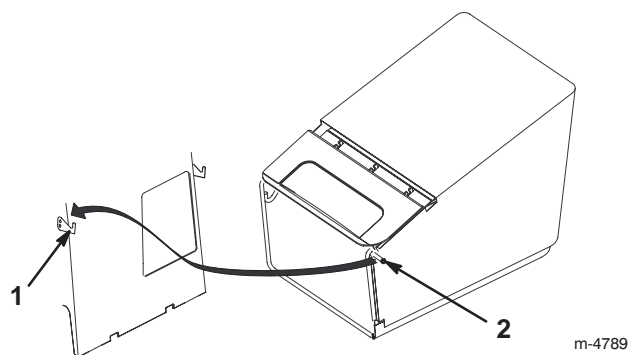

Figure 15
4. Hang the grass bag frame pins onto the deck hooks as shown in Figure 15.
4. Lift the grass bag frame pins off the deck hooks and out of the opening as shown in Figure 15.